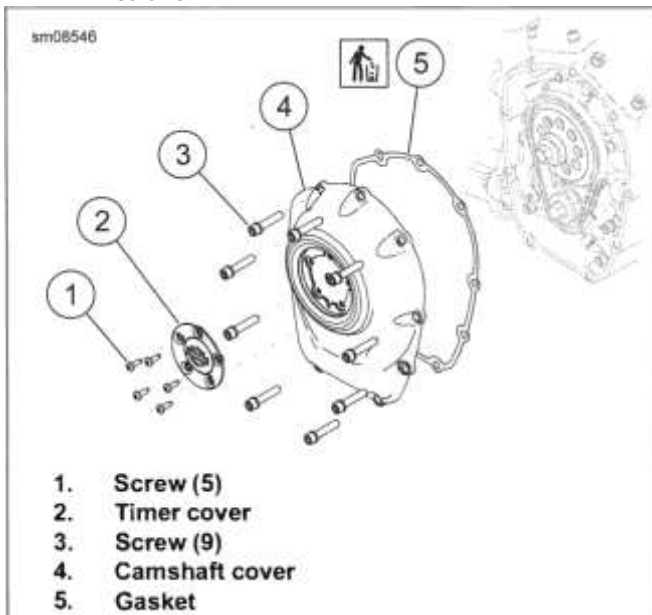

Figure 4-49. Camshaft Cover
1. See Figure 4-49. Remove camshaft cover.
- a. Remove screws (3).
- b. Remove camshaft cover (4).
- c. Discard gasket (5).
1. See Figure 4-49. Install camshaft cover.
- a. Install new gasket (5).
- b. Install camshaft cover (4).
- c. Install screws (3). Hand tighten.
2. See Figure 4-49. Install timer cover, if removed.
- a. Install timer cover (2).
- b. Install screws (1). Tighten.